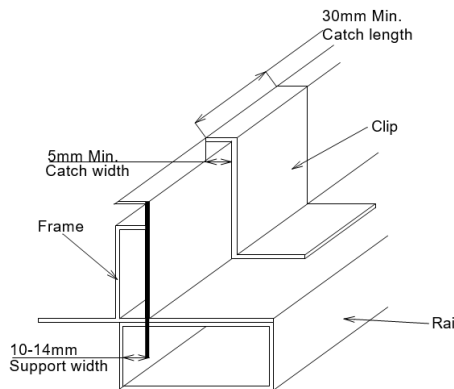

Figure 7: Installing the module pressing blocks embedded in the beam
- 6. When installing the module pressing blocks embedded in the beam, the modules may be mounted using clamps designed for solar modules (see Figure 7), the modules must be supported along the length of the long edge and should overlap the array rail by 10mm-14mm.